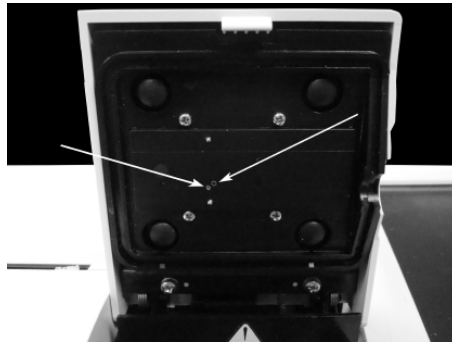

Fig. 7-58 Locate Optical Channels
1. Open the SMC cover and locate the two small optical channels pictured below (Fig. 7-58).